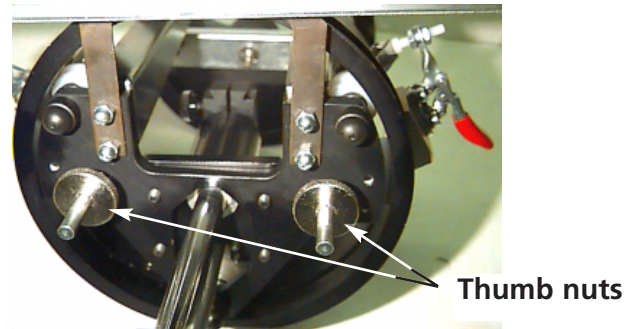

Figure 3-24
1. Loosen the two thumb nuts on the back of the wide-angle cap frame driver (see Figure 3-24).